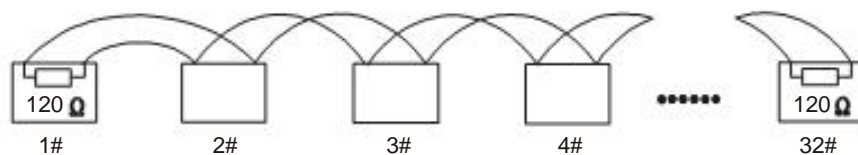
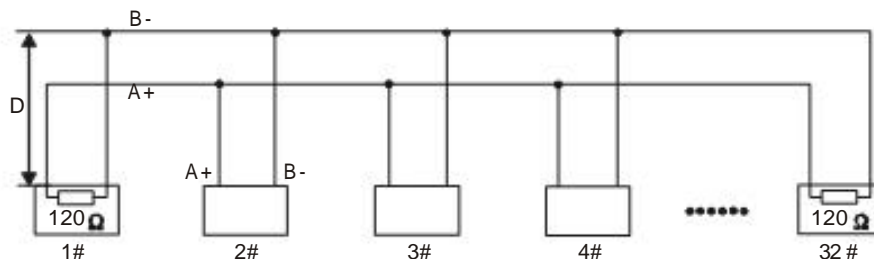

Figure41
Figure42
- ◆ The RS485 industry control bus requires daisy-chain connection mode between equipments, and 120Ω terminal impedances should be connected at each end. The mode is shown in figure 41. Simplified connection mode is shown in figure 42.The distance of D must be less than 23 feet (7 meters).